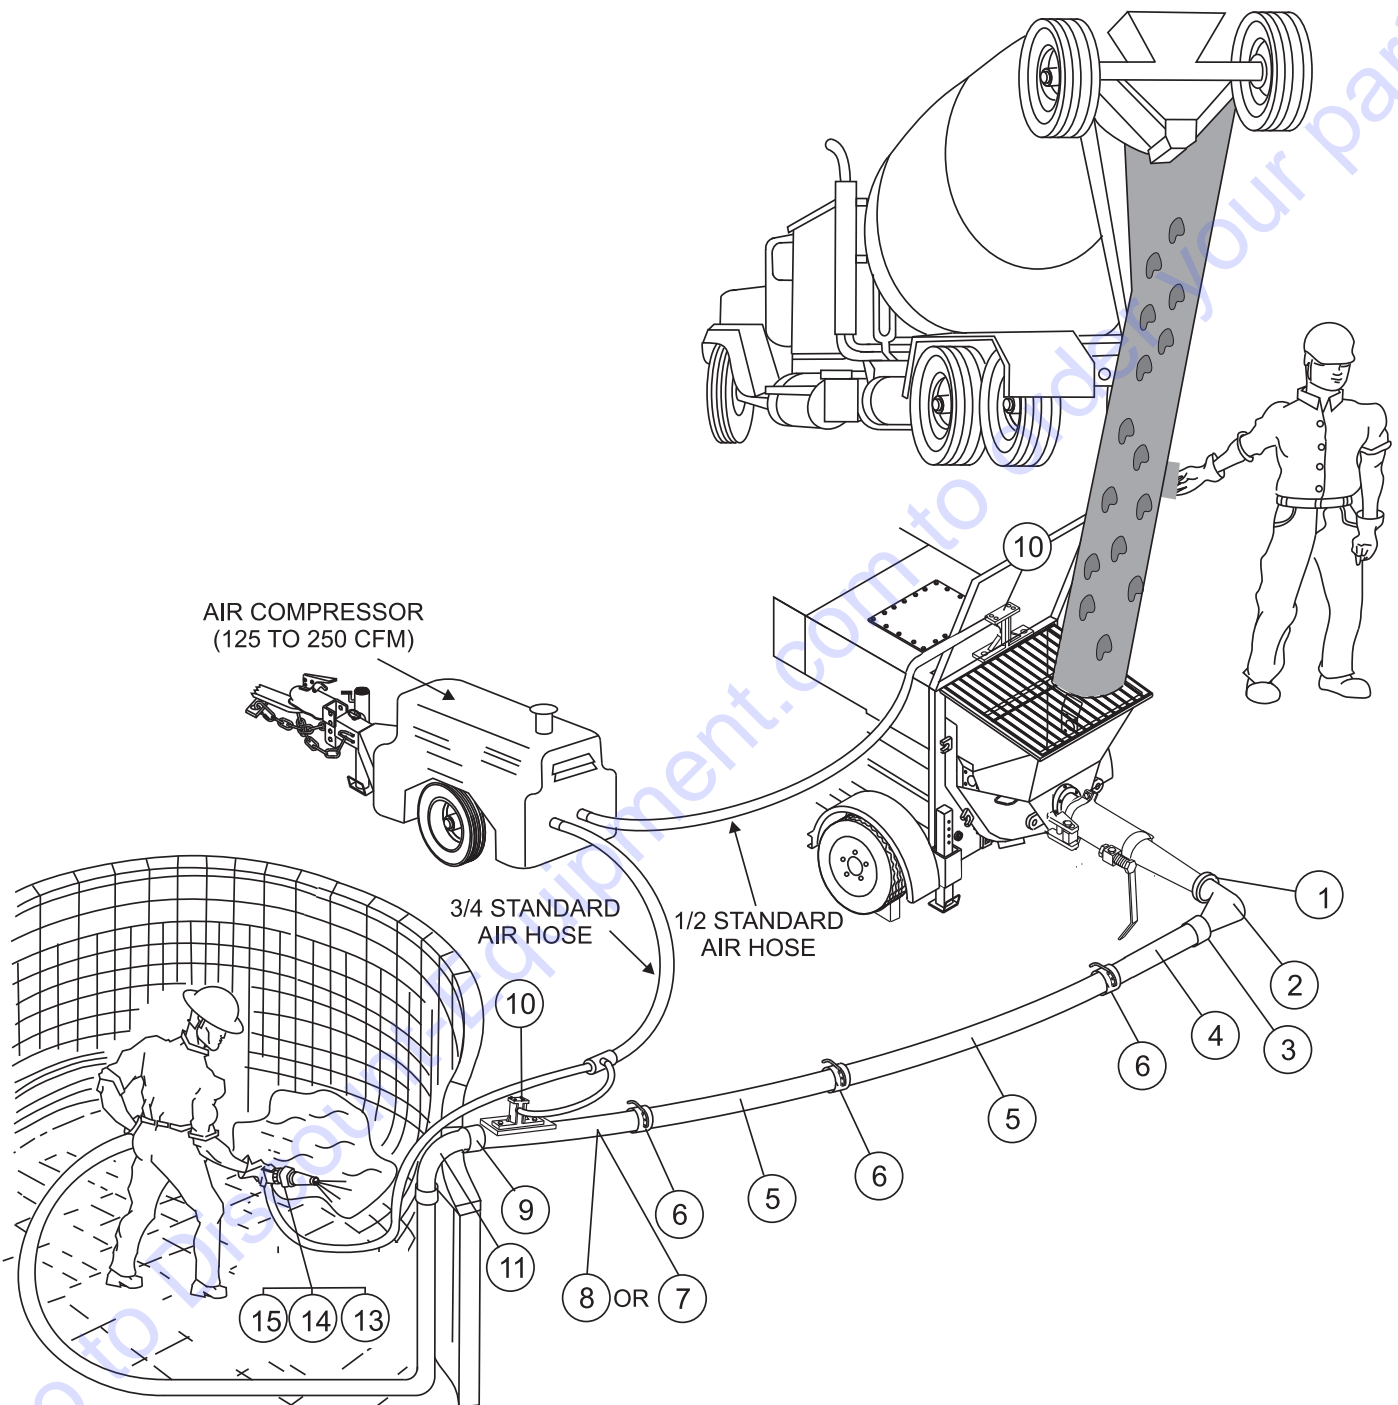

Figure 55. Recommended Shotcrete System
3. Fill the cone 1/3 full by volume (Figure 55-A) and rod 25 times with a 1/2" dia x 24" lg. bullet-pointed steel rod. (This is a specific requirement which will produce non-standard results unless followed exactly.) Distribute rodding evenly over the entire cross section of the sample.
4. Fill cone another 1/3 (Figure 55-B) which will make the cone 2/3 full by volume. Rod this second layer 25 times with the rod penetrating into, but not through, the first layer. Distribute rodding evenly over the entire cross section of the layer.
5. Fill cone to overflowing (Figure 55-C). Rod this layer 25 times with rod penetrating into but not through, the second layer. Distribute rodding evenly over the entire cross section of this layer.
6. Remove the excess concrete (Figure 55-D) from the top of the cone, using the tamping rod as a screed.
7. Lift the cone vertically (Figure 55-E) with a slow even motion. **DO NOT** jar the concrete or tilt the cone during this process. (Invert the withdrawn cone, and place it next to, but not touching the slumped concrete.
8. Lay a straight edge (Figure 55-F) across the top of the slumped cone. Measure the amount of slump in inches from the bottom of the straight edge to the top of the slumped concrete at a point over the original center of the base. The slump operation must be complete in a maximum elapsed time of 1-1/2 minutes. Discard the concrete. **DO NOT** use it in another tests.